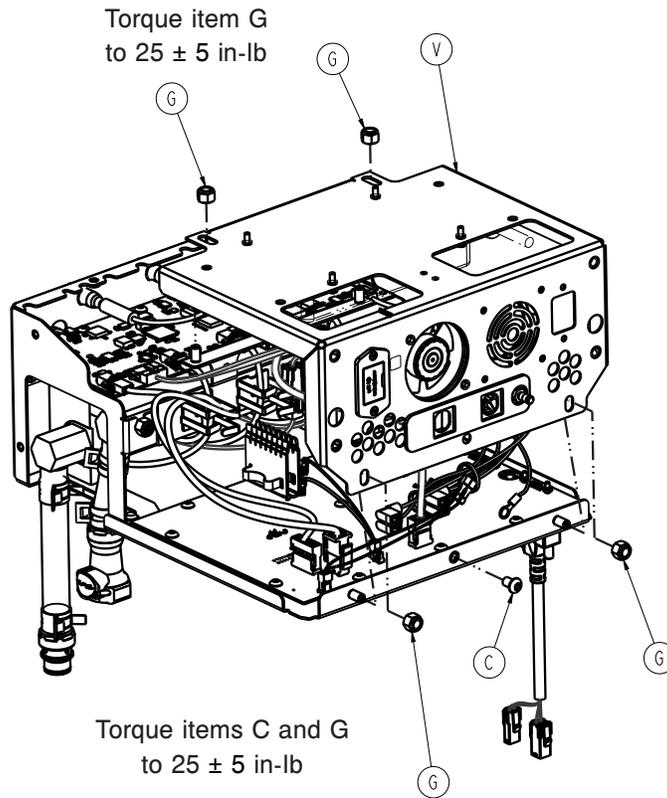

Figure 36 – Locknuts
16. Using a 7/16" socket and ratchet, remove the two locknuts (G) that secure the manifold assembly to the control assembly (Figure 36). Save the locknuts.